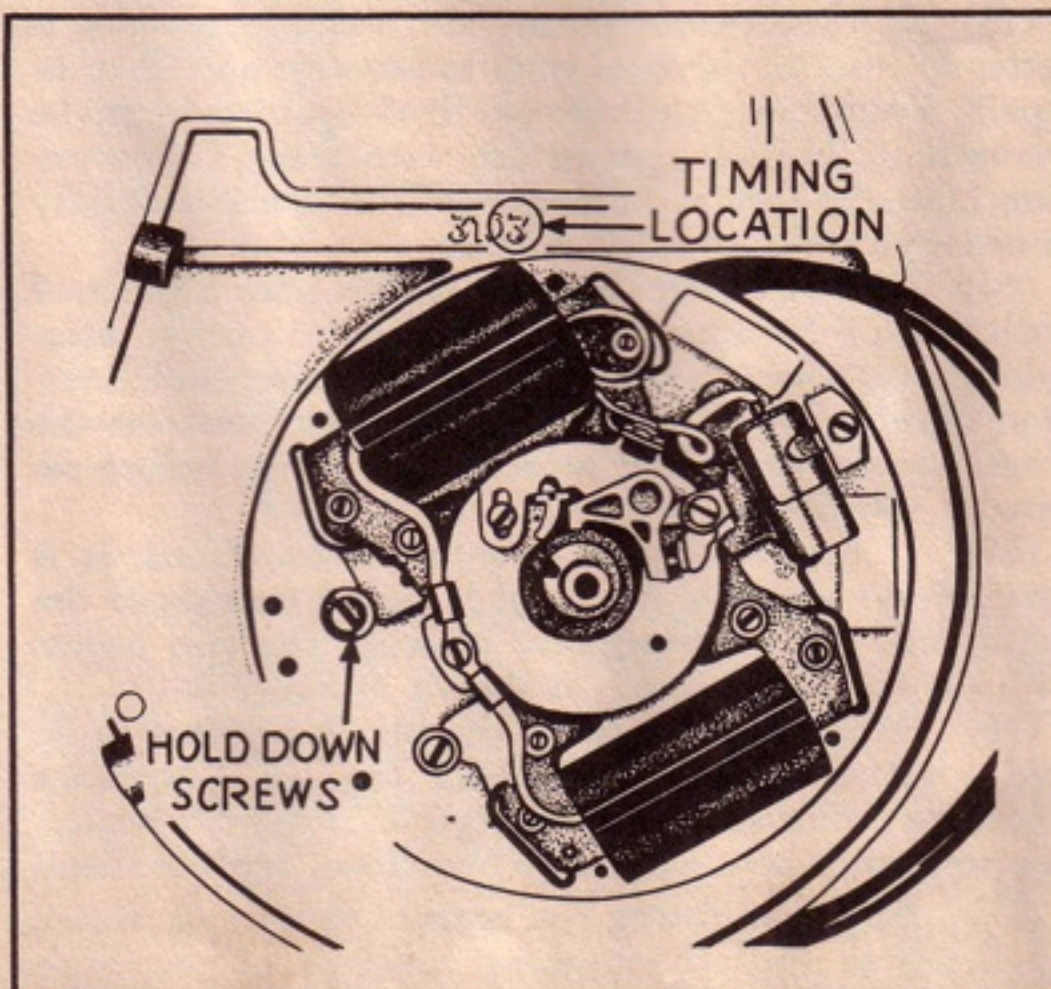

Figure B-17. Timing Location for Scintilla Magneto
(2) Magneto assemblies of the type K1-4, K1-5, K1-12, K1-16 and K1-19 have been used on the models of 700-A, A-1100 and B-1100 engines. The K1-4 and K1-5, used exclusively on the 700-A series up to approximately engine No. 199,736, may be adjusted to advance or retard the ignition timing.
(3) The timing is adjusted by first loosening the four retaining screws sufficiently to allow the stator plate to be rotated on its axis. The plate should be rotated until the right-hand corner of the ignition coil is slightly to the left of the right-hand figure three on the bearing plate, as shown in figure B-17. When the magneto is in this position, the timing is within the practical operating limits.
(4) The hold-down screws should next be tightened, making sure that the clamps engaging the groove of